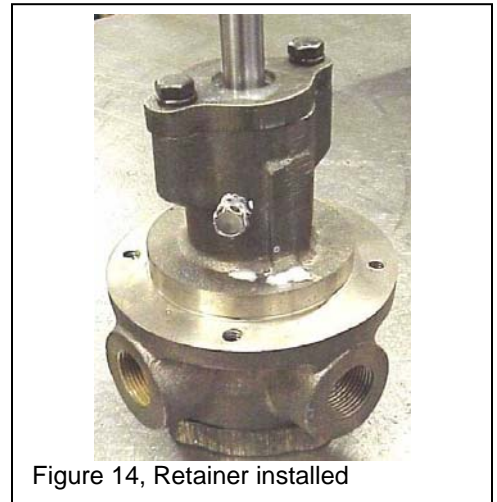

Figure 14, Retainer installed
11. Tighten the fasteners evenly and in small increments, figure 14.